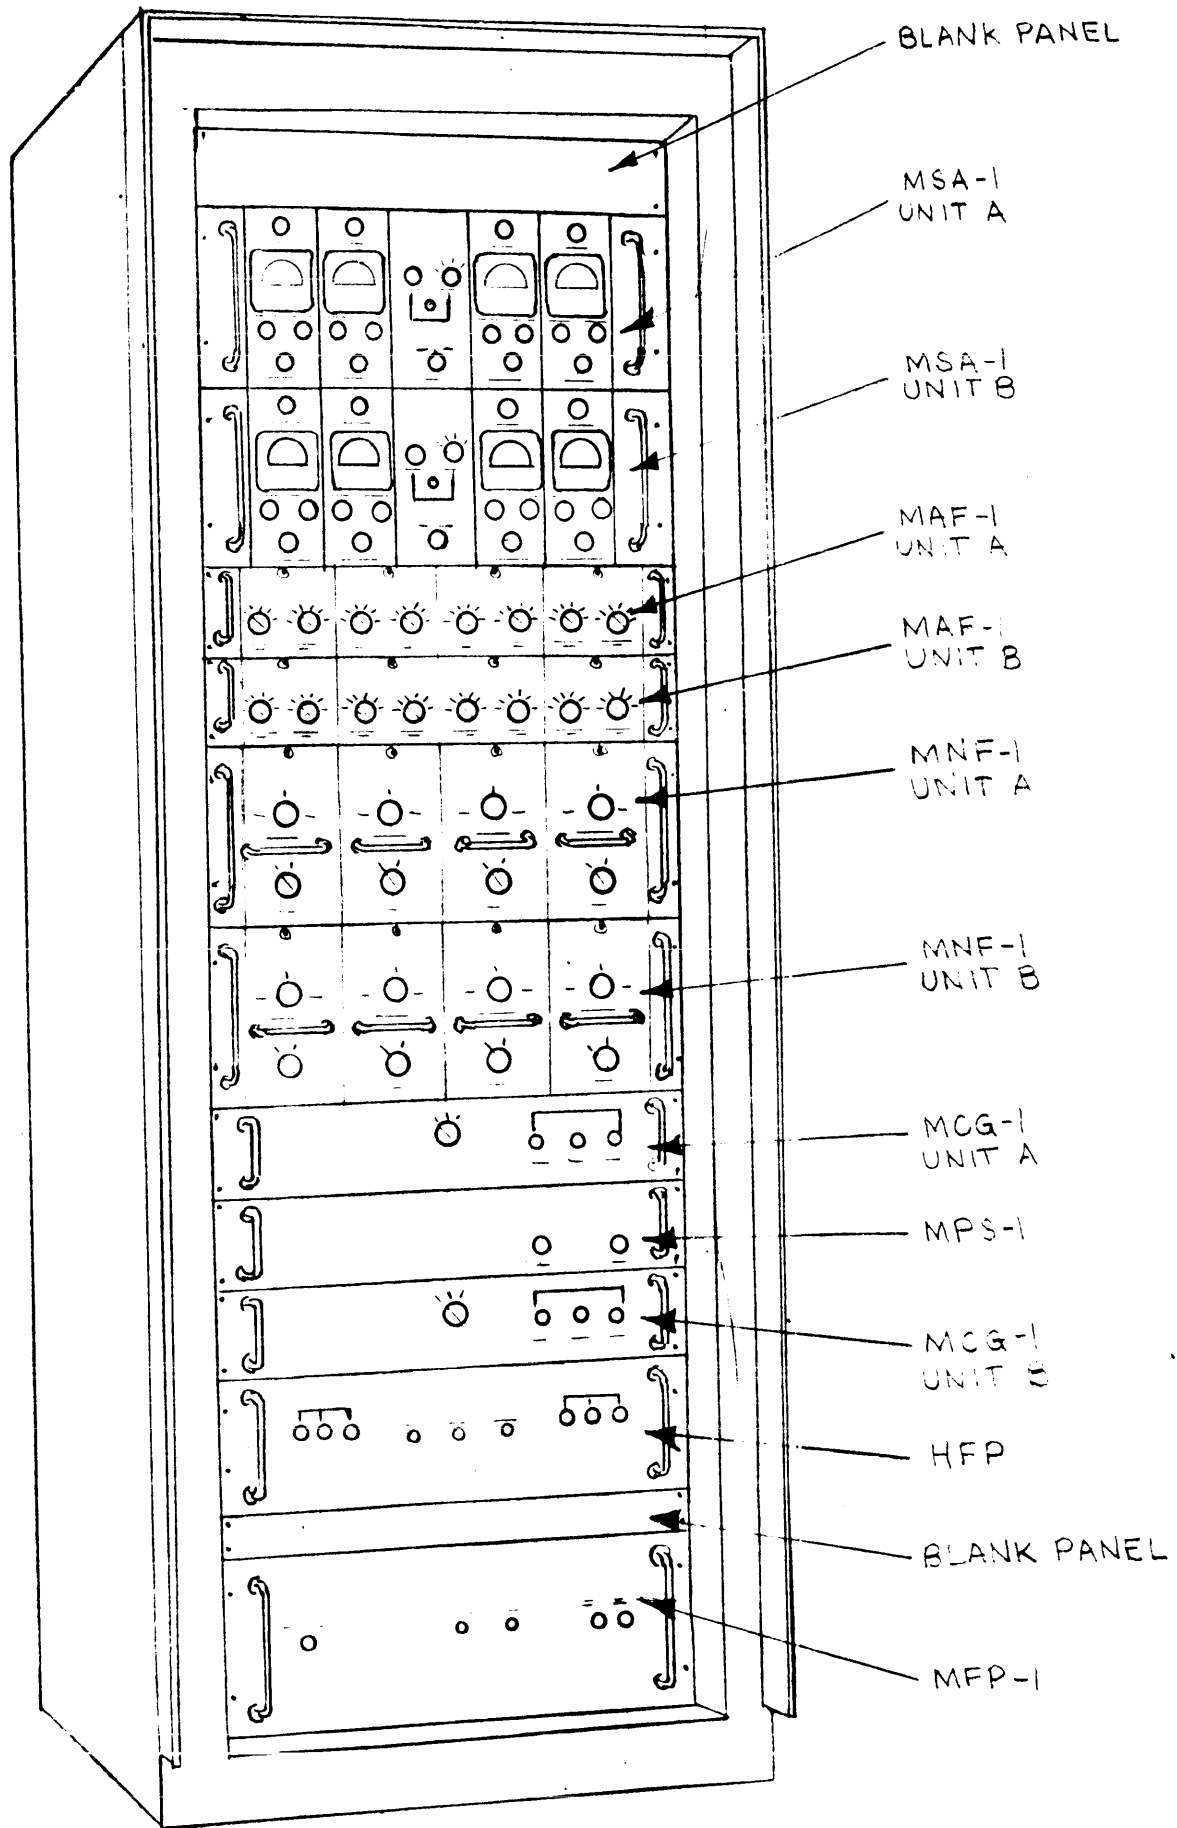

Figure 2-2. Unit Location.
b. INSTALLATION of UNITS.-The cabinet is equipped with tracks that attach to slide mechanisms of the modular units. Figure 2-2 shows the location of the units within the cabinet. Like units are identified with letters A and B at the end of their serial numbers. As shown in figure 2-2 the A unit is mounted above the B unit. To install any modular unit proceed as follows:
- (1) Untape or unstrap cable assemblies and other items that are secured to the rack frame for shipment.
- (2) Pull center section of each cabinet mounted track out until it locks in the extended position.
- (3) Position slide mechanisms of modular unit in tracks, and ease modular unit forward into rack until rearward release fin-